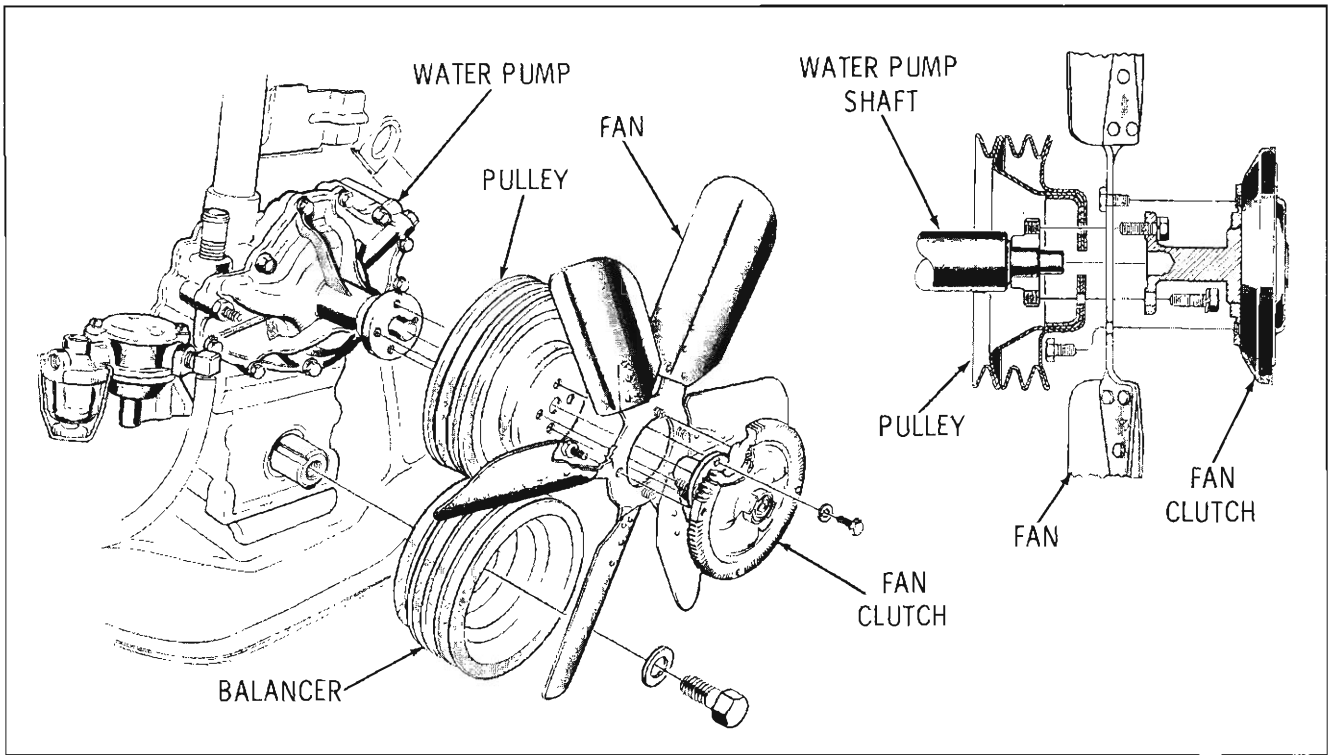

Fig. 3-54 Fan and Clutch Assembly
1. Remove the four fan and clutch to pulley attaching bolts. (Fig. 3-54)